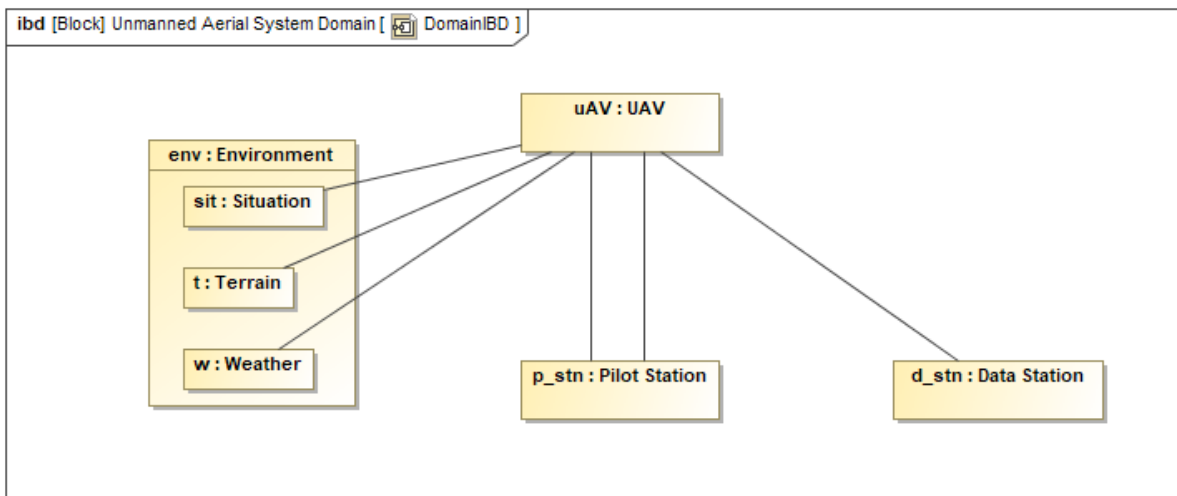

Figure 3 Domain IBD diagram, second stage
- Repeat this process for five additional connectors as shown in Figure 3. In this diagram, the **Symbol Properties: Path Style** was set to **Rectilinear** for the two connectors between **uAV** and **p\_stn**.